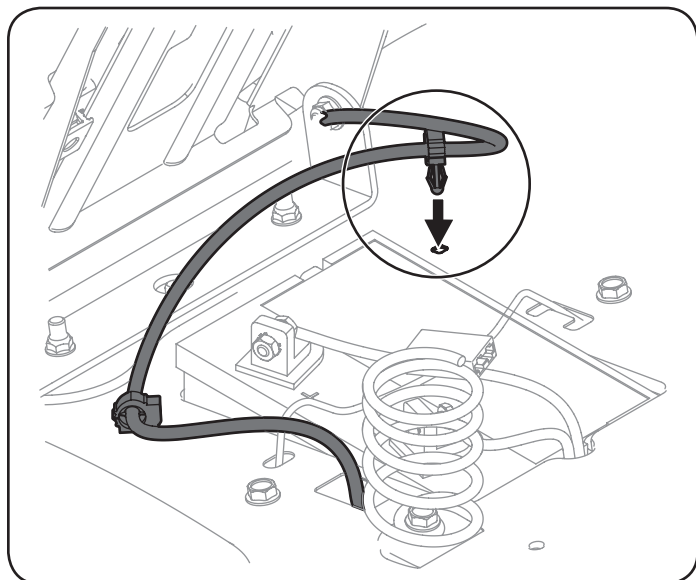

Figure 4
- Using the harness clip attached to the harness, secure the excess wire to the fender by snapping the harness clip in place as shown in Figure 4.